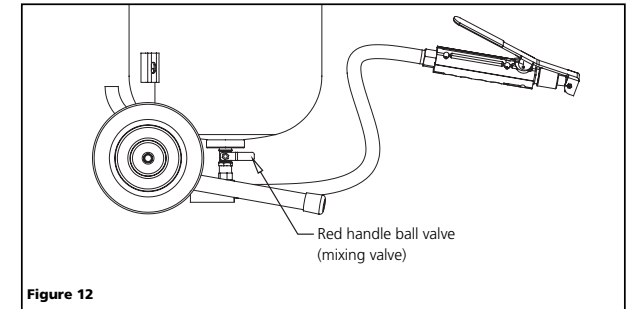

Figure 12
- Set the red handle ball valve under the tank to a mid-point position between fully open and fully closed. This "mixing" valve will set the ratio of blast media to the air (see Figure 12).